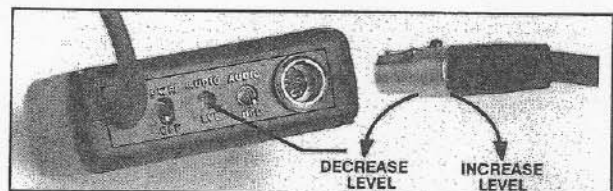

Figure 5 - Adjust Transmitter Audio Level Control
- 7) **Adjust the transmitter "AUDIO LVL" control with the provided screwdriver (see Figure 5) until the strongest pick attacks bring the receiver "AUDIO LEVEL" display into the red section of the LEDs.** Because different guitar pickups and electronics put out varying levels of voltage, the transmitter level adjustment setting for one guitar may well not be the same for another guitar. For very "hot" pickups, you may need to set the transmitter level adjustment to the minimum setting, fully counter-clockwise.